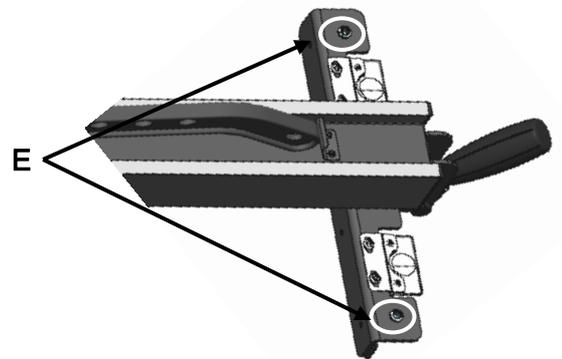

Fig. 16
3. If needed, to level the fence, adjust the plastic set screws E equally, thereby raising or lowering the front of the fence an equal amount on either side so as not to undo the previous perpendicular adjustment Fig. 16.